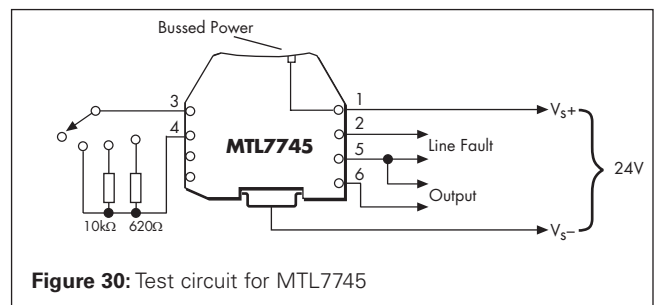

Figure 30: Test circuit for MTL7745
- Connect the barrier as shown in figure 30.